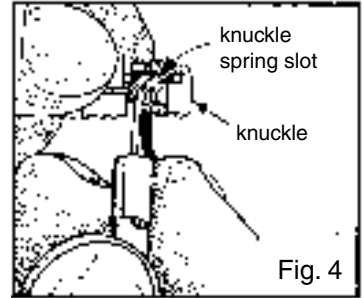

Fig. 4
6. Coupler knuckle springs are installed at the factory. If one should come out during mounting, replace as follows: Insert small screwdriver blade between coils at one end of spring, then place other end of spring over either of the cone-shaped projections in the knuckle spring slot. Compress spring until other end can be slipped over opposite cone (Fig. 4). Use only #1 gauge knuckle springs designed for this purpose. Any substitutions will not allow the coupler to work properly.